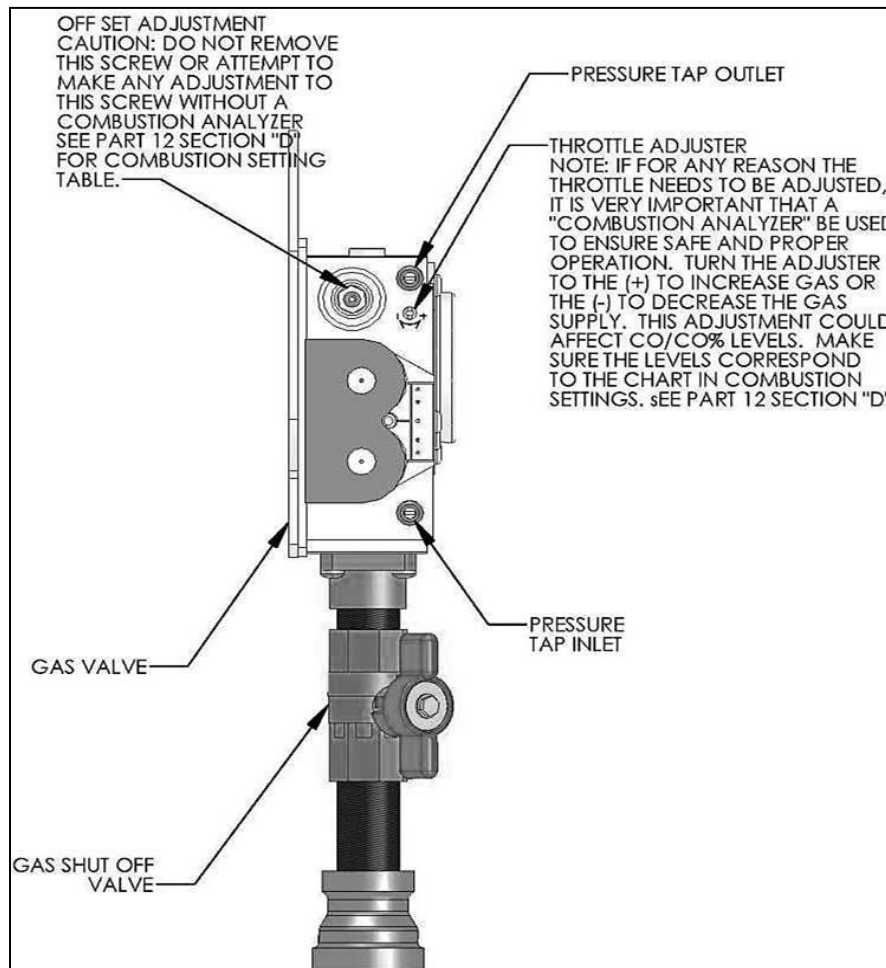

Figure 28 – LP-171-N
2. Loosen the pressure tap with a small screwdriver. Refer to Figure 28 for location.
3. Each boiler is equipped with a needle valve that will accept a 5/16 ID hose to connect to a digital manometer or liquid gauge designed to measure incoming pressure from 0-35" w.c. See Figure 28.